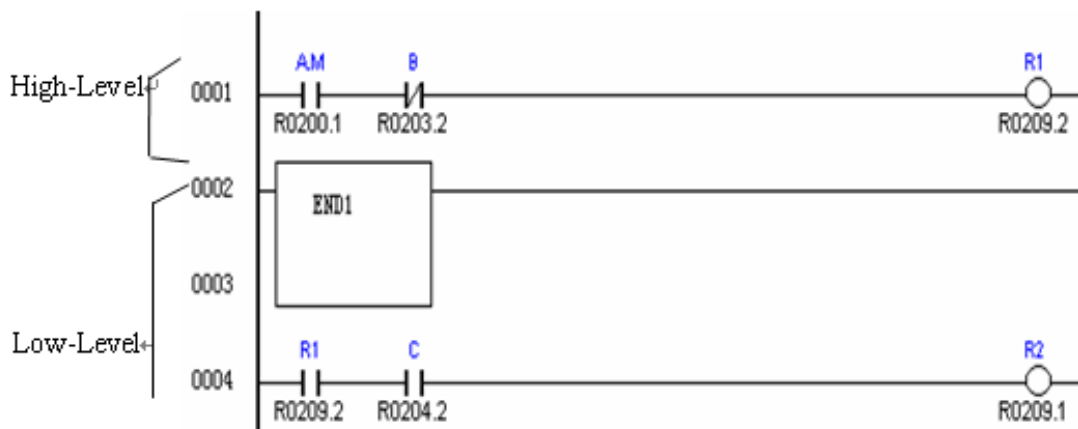

Fig 2
- 2) In fig 2, when R1 is turn on, R2 must be turn on.